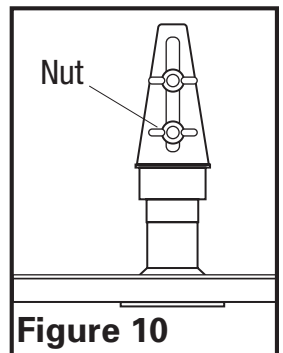

Figure 10
- Locate the lamp holder bracket mounted on the back wall of the hood (Figure 10).